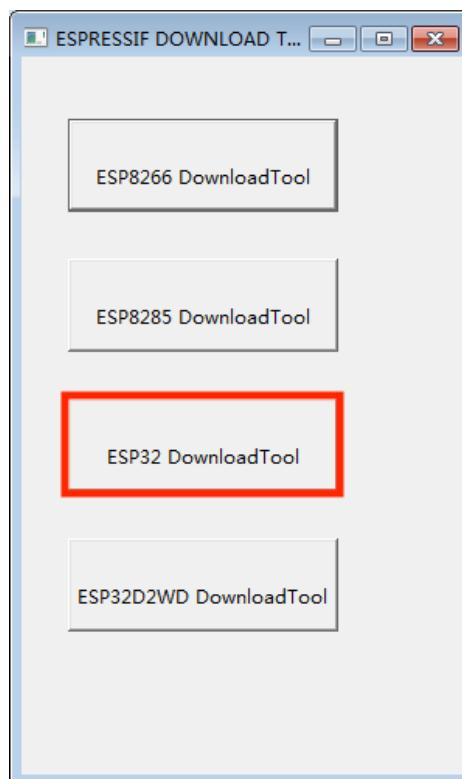

Figure 4-1. The Download Interface - ESP32
1. Start the Flash Download Tool. The main interface will appear, as shown in Figure 4-1. Click **ESP32 DownloadTool** to access the interface for downloading firmware to an ESP32 module that uses external flash.